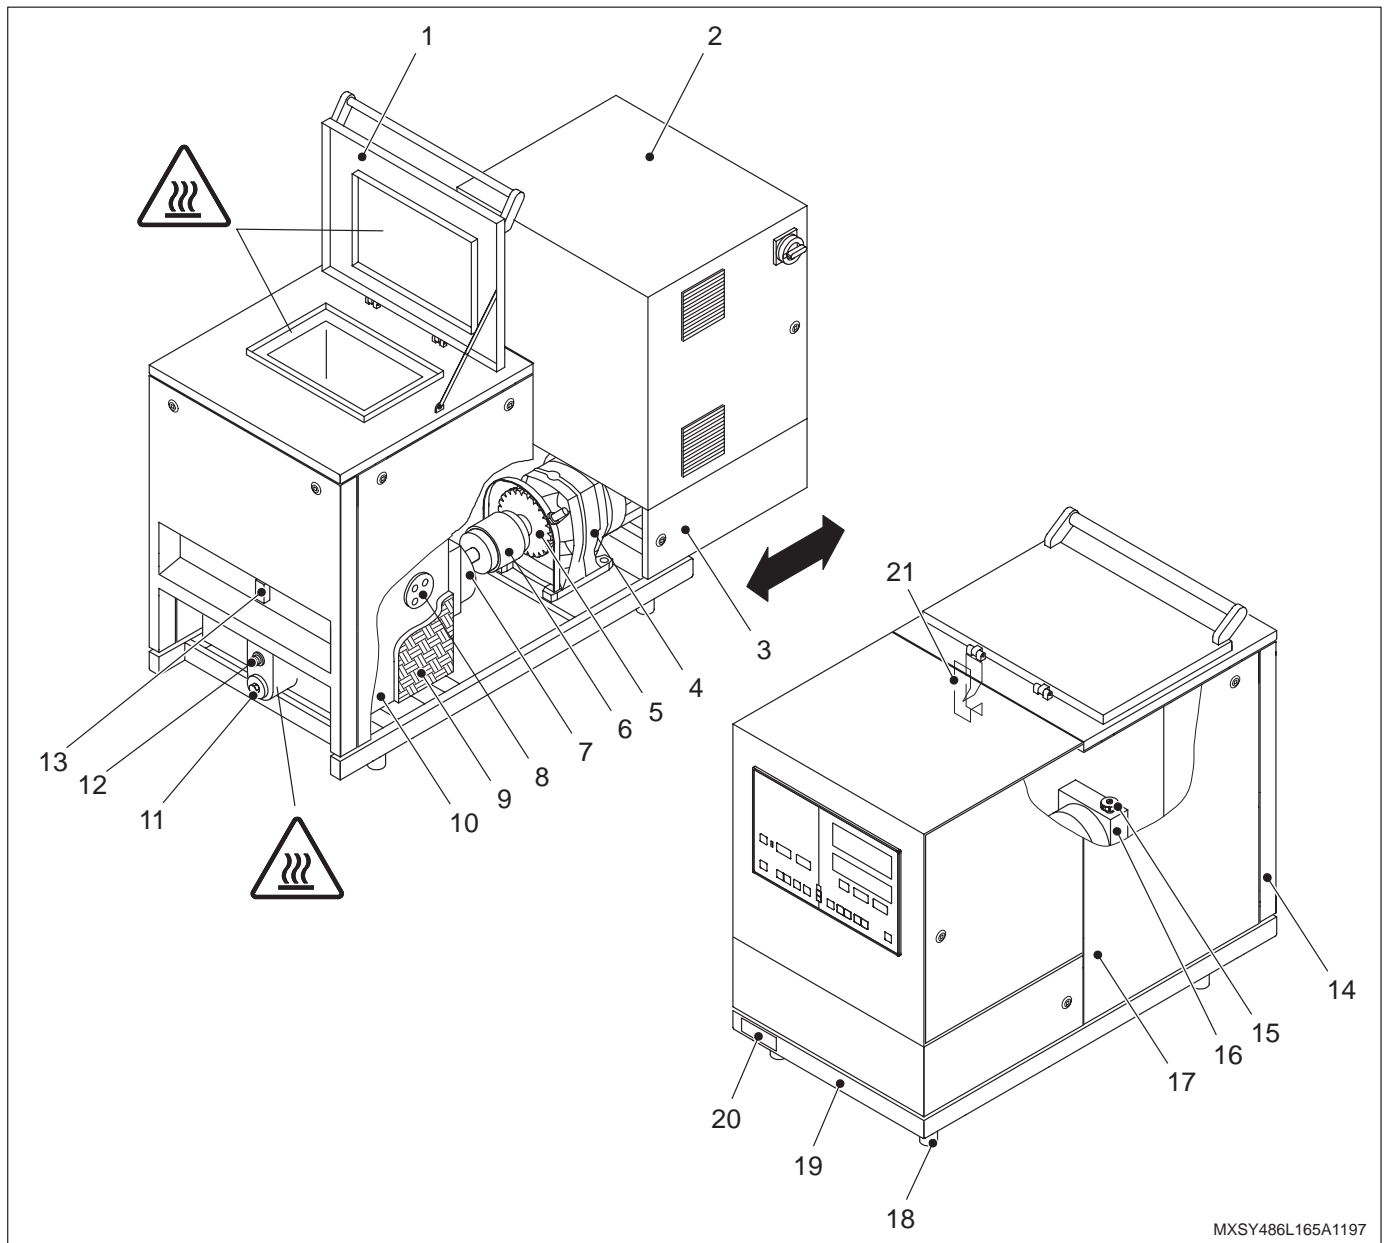

Fig. 2-2
NOTE: The pressure sensor (2) can also be located in the bypass plate (16, Fig. 2-2). The connectors (9 and 10) can also be located on the other side of the unit. The units MX 3412 and MX 4412 can not be equipped with a weighing cell (1).